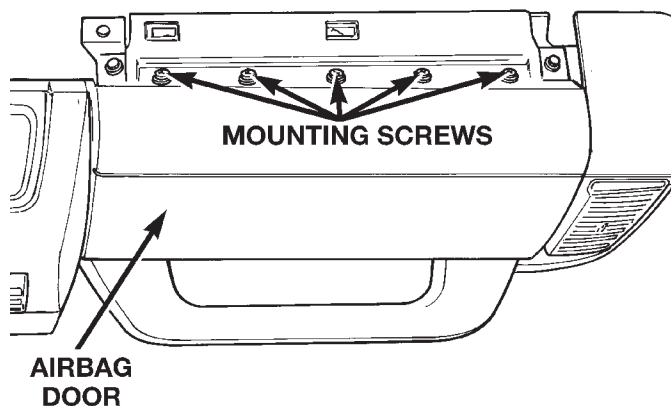

Fig. 13 Passenger Side Airbag Door Upper Screws Remove/Install
(1) Remove the instrument panel assembly from the vehicle. See Instrument Panel Assembly in Group 8E - Instrument Panel Systems for the procedures.
(2) Place the instrument panel face up on a work bench.
(3) Remove the five screws that secure the airbag door upper flange to the top of the instrument panel (Fig. 13).
(4) Remove the grab handle bezel from the instrument panel. See Grab Handle Bezel in Group 8E - Instrument Panel Systems for the procedures.
(5) Remove the five screws that secure the airbag door lower flange to the instrument panel above the glove box opening.
(6) Place the instrument panel face down on the work bench.